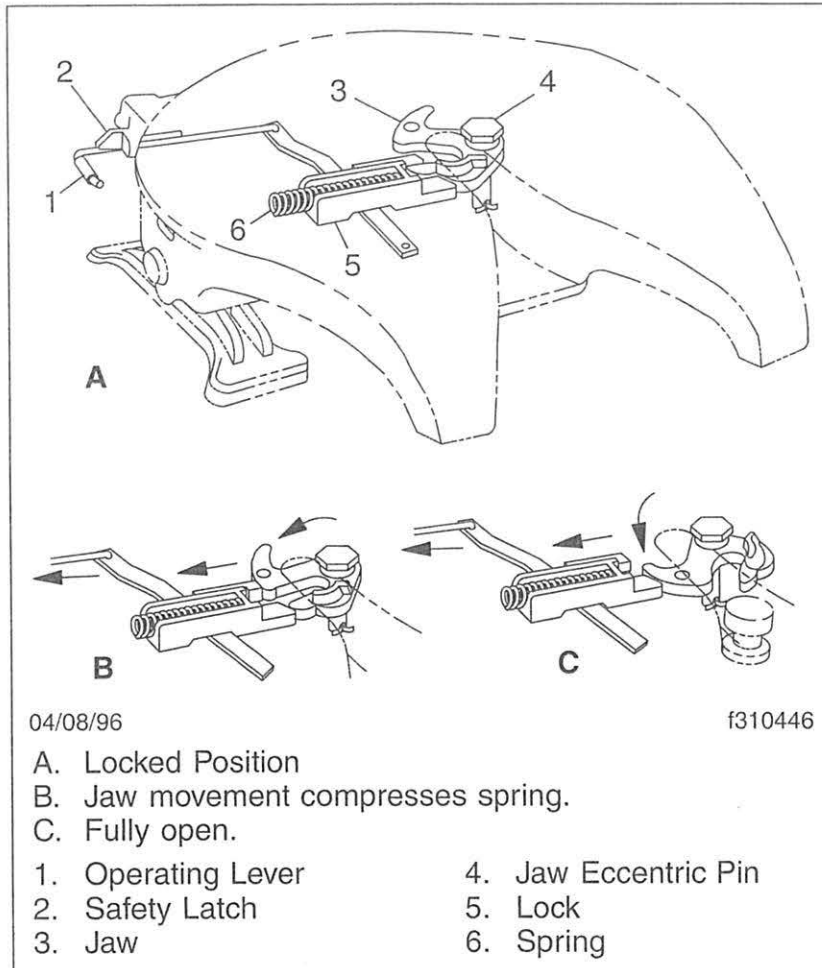

Fig. 10.10, ASF Castloc II and Simplex Series Kingpin Locking Mechanism Operation
Fifth Wheel Lock Mechanism for Trailer Kingpin (Fig. 10.10)
4. Position the tractor so that the center of the fifth wheel is in line with the trailer kingpin. The kingpin should be in a position to enter the throat of the locking mechanism. See **Fig. 10.10**. Adjust the trailer landing gear so that the lower front trailer edge contacts the top surface of the tilted fifth wheel plate, approximately 8 inches (20 cm) before the fifth wheel center.